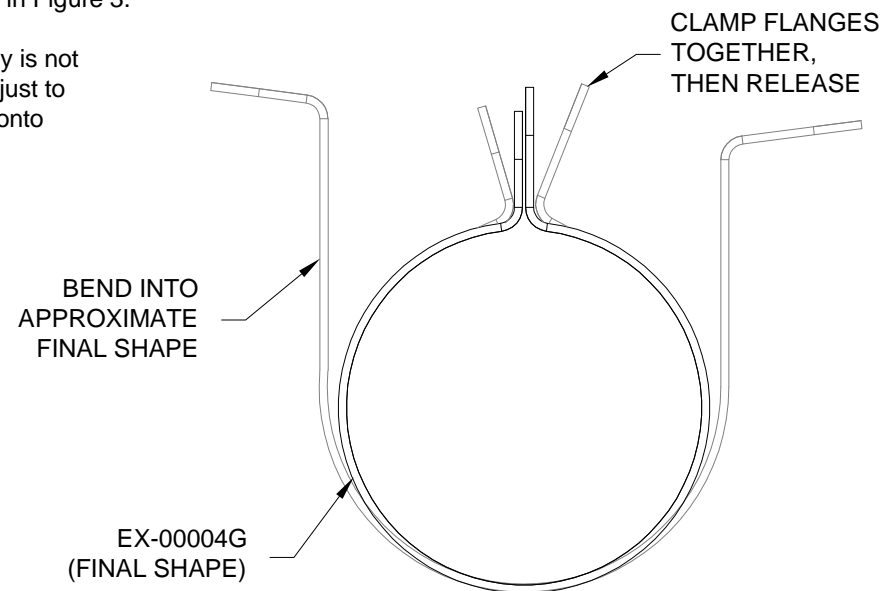

FIGURE 3: EXHAUST HANGER BRACKET
Step 4: Bend the EX-00004G Exhaust Hanger Bracket into the shape shown in Figure 3.